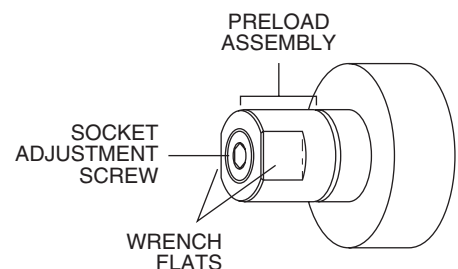

Figure 1
1. Unscrew the preload assembly from the valve body. Wrench flats are provided for this purpose. (**Figure 1**)